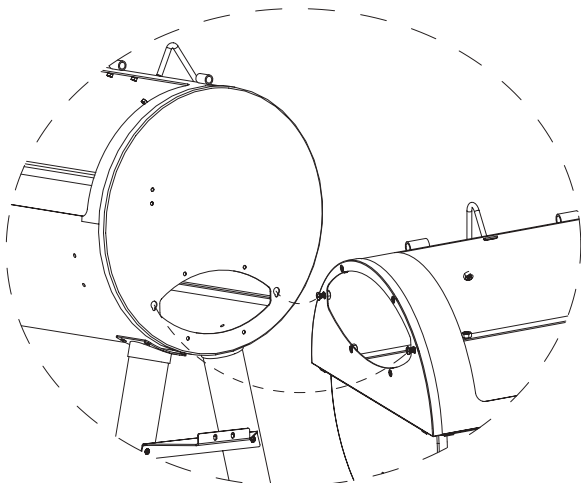

fig. 12a
- At the end of the Cooking Chamber (11) with the elliptical hole, fit the Firebox unit locating the 2xM6 bolt heads through the keyhole slots and resting against the Firebox Bracket (25) as per fig. 12a.